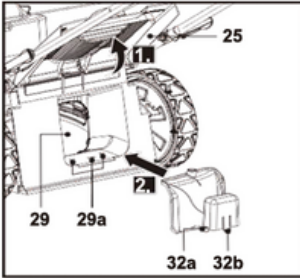

Fig. 16
1. Open the rear discharge cover (25), hold it in this position and insert the mulching insert (32) into the rear discharge chute (29) (Fig. 16). Make sure that the two pins (32a) and the latch (32b) engage with the holes in the discharge chute (29a) with an audible click.